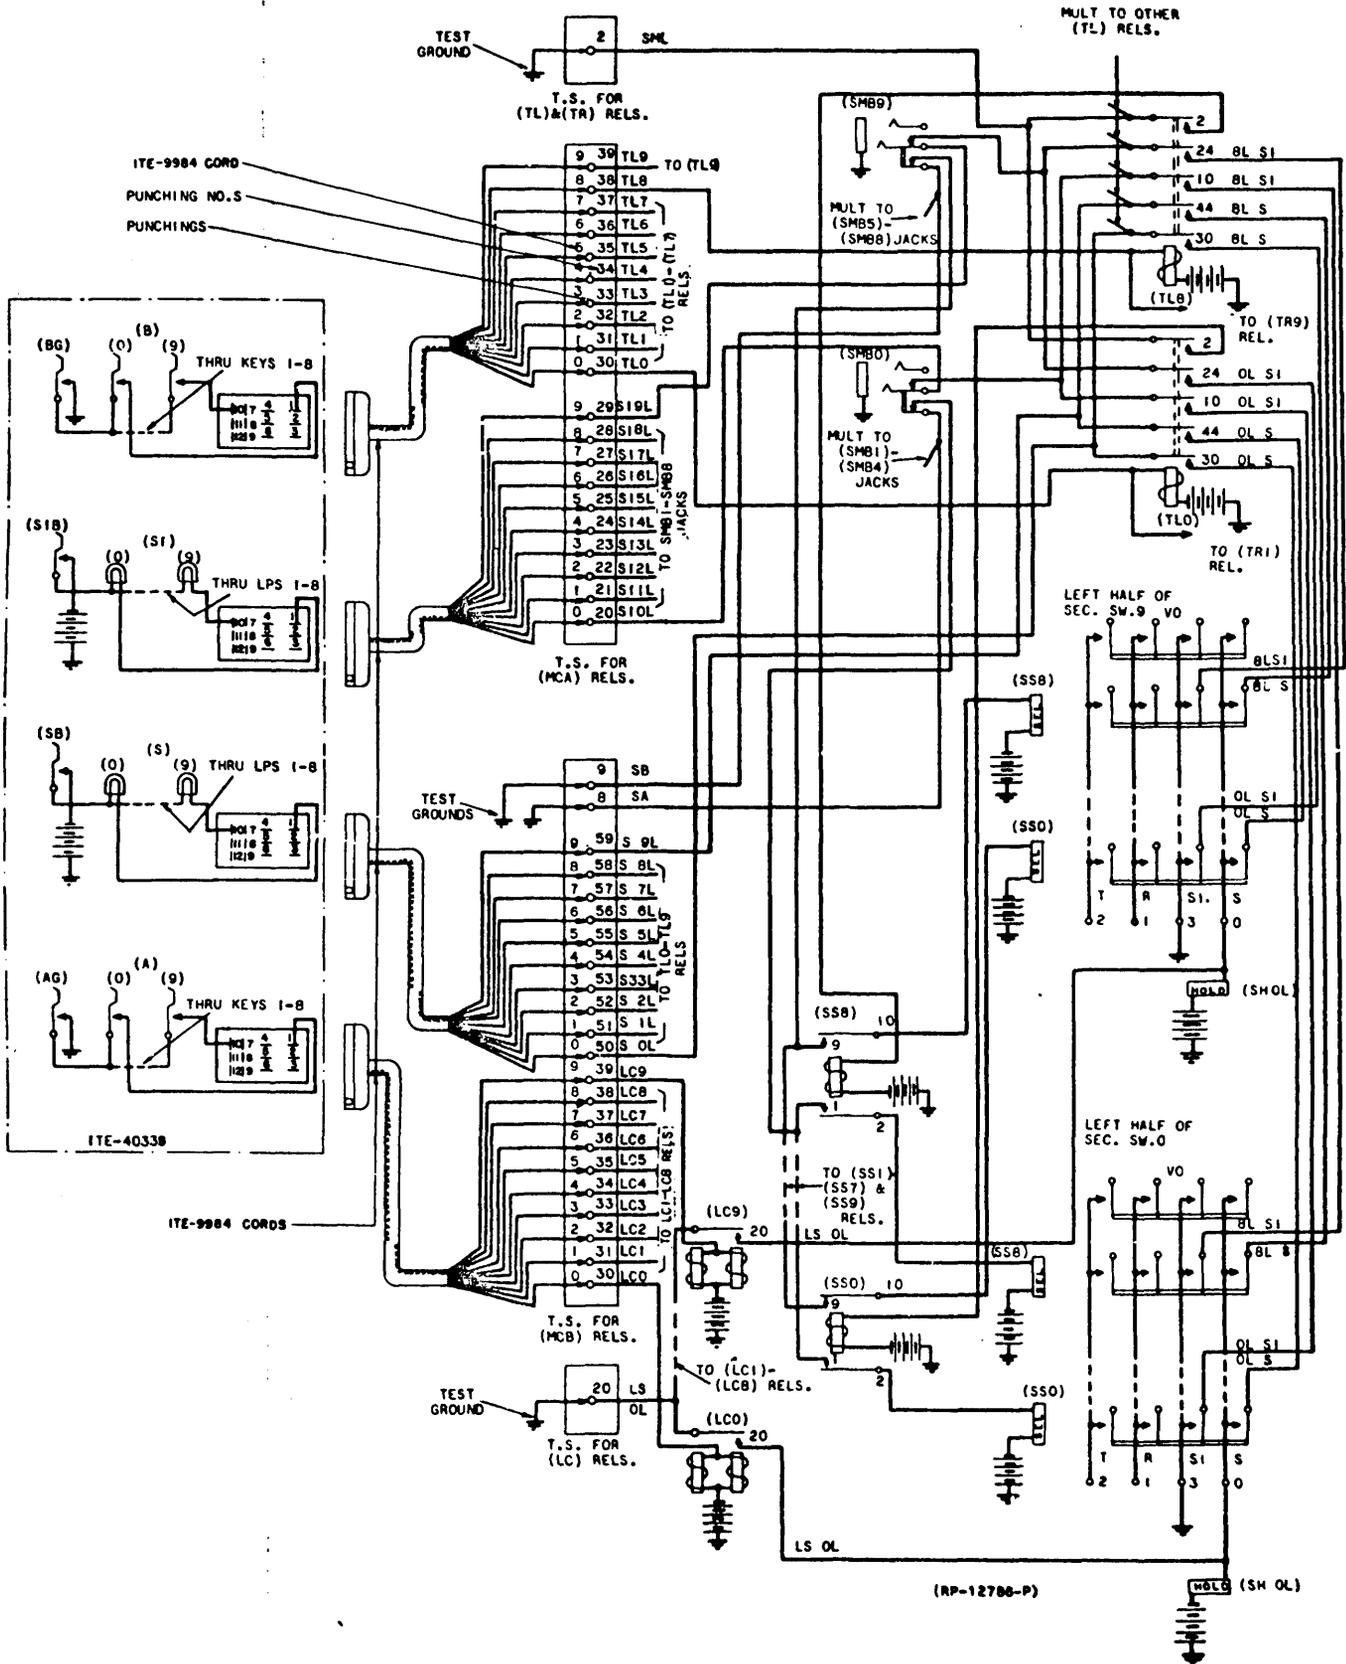

FIG. 13 SETUP FOR TEST OF S AND S1 LEADS, LEFT HALF SWITCHES
13.3 S and S1 Leads Associated With TL Relays13.31 Setup for Test (See Figure 13)
- 13.311 Move the leads, as required, from the setup of Paragraph 13.11 or 13.21 to obtain the following association (shown in Figure 13).
- 13.411 Change the test setup of Paragraph 13.311 and Figure 13 to conform to Figure 14 by making the following change: